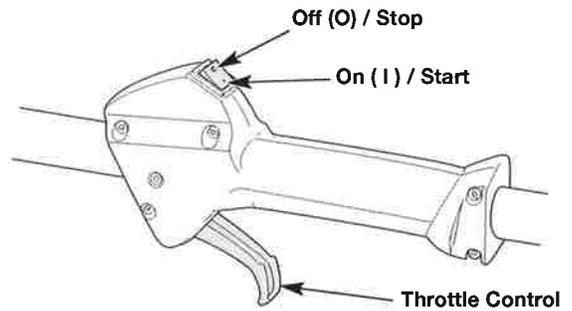

Fig. 3
NOTE: There is no need to turn the unit on. The On/Off switch is in the ON (I) position at all times (Fig. 3).
6. Squeeze the throttle control (Fig. 3) and pull the starter rope with a controlled and steady motion **5 times** (Fig. 5).
2. Press and hold the On/Off switch in the OFF (O) position until the engine comes to a complete stop (Fig. 3).